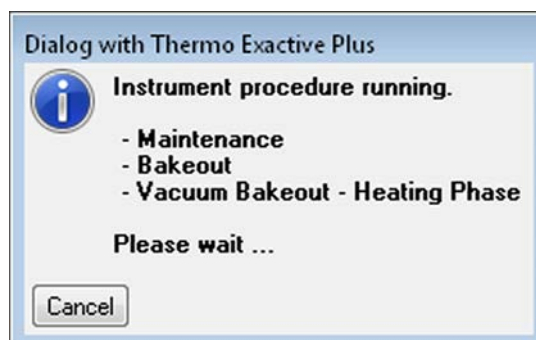

Figure 5-10. Message box: Vacuum Bakeout active
- The message box disappears and the baking procedure starts. The instrument indicates the active bakeout procedure by a flashing Vacuum LED at the front side. Additionally, the Exactive Plus Tune software displays a corresponding message box. See Figure 5-10.